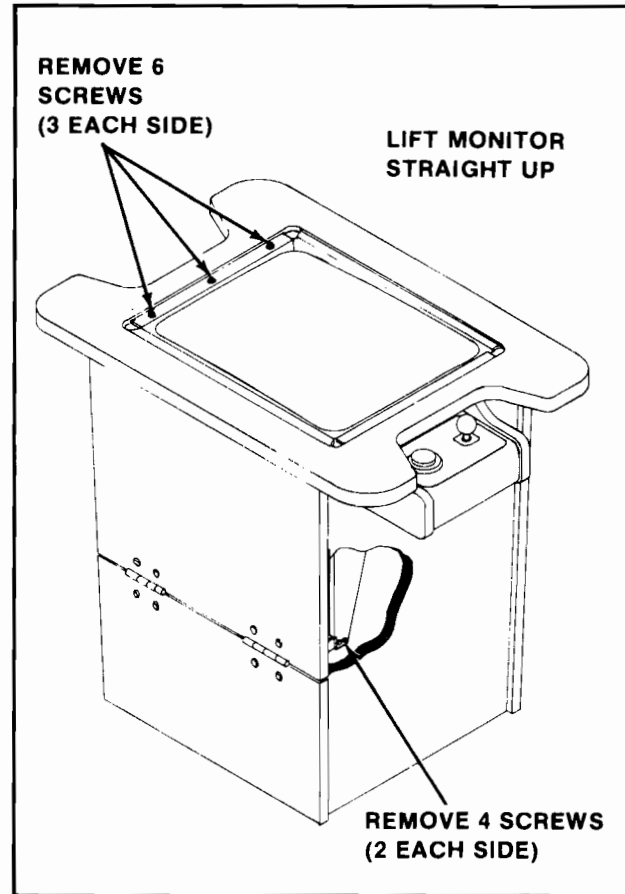

Figure 2-18 Removing the Monitor - Cocktail
**2.7.3 COCKTAIL TABLE MODEL:** (See Figure 2-18)
- Remove the screws holding the T.V. monitor chassis to the "L" by the door hinge(s). See Figure 2-18.
- Remove the screws which secure the T.V. monitor mounting brackets to the edges of the slot cut in the table top. See Figure 2-18.